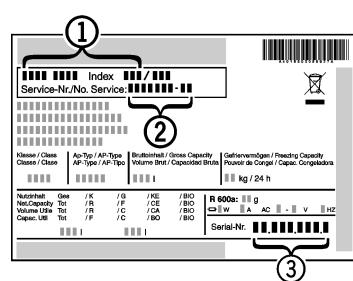

Fig. 9
- ▶ Notify a qualified service provider, specifying the fault, appliance designation *Fig. 9 (1)*, service no. *Fig. 9 (2)* and serial *Fig. 9 (3)* no.
- ▶ Read the appliance designation *Fig. 9 (1)*, service no. *Fig. 9 (2)* and serial no. *Fig. 9 (3)* from the rating plate. The rating plate is located inside the appliance on the left-hand side.